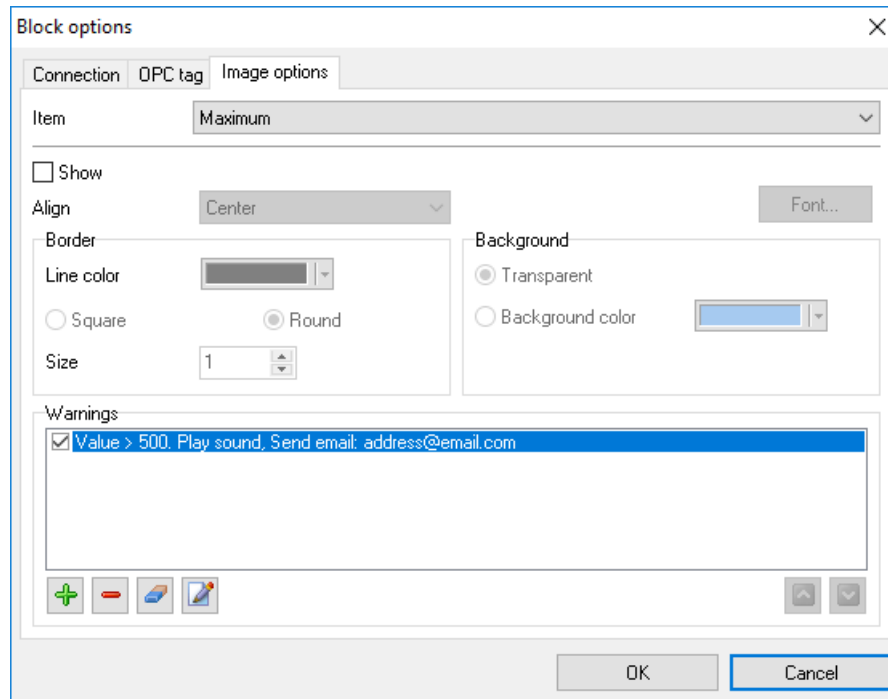

Fig. 8. Element parameters.
6. **Minimum and maximum values for the OPC tag** - this parameter allows you to specify one or several conditions (fig.8) that will serve as a limit for the acceptable values of the tag. If the value exceeds the specified limit, the program will show a warning.
You can specify the list of conditions for the "Value", "Minimum" and "Maximum" elements (fig.8). If they are met, the program will display warnings and play the specified sound. To add a warning, select the corresponding element in the list and click the "Plus" button. After that you will see the dialog box where you should specify the necessary parameters (fig.9). Other buttons next to it are used for the following operations (left to right):